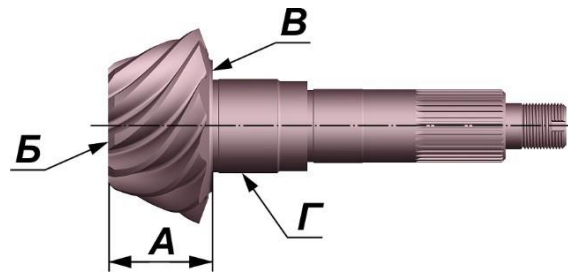

Fig. 3.82. Special-purpose mandrel #1
- install special mandrel #1 (Fig. 3.82) with the drive gear bearing inner races in the reduction case;